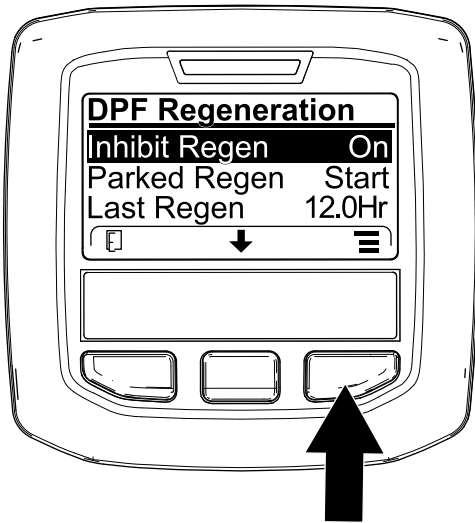
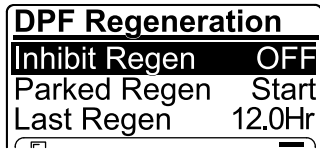

Figure 46
Figure 47
1. Access the DPF Regeneration menu, press the center button to scroll down to the INHIBIT REGEN option, and press the right button to select the Inhibit Regen entry (Figure 46).
- Press the right button to change the inhibit regeneration setting from On to Off (Figure 46) or from Off to On (Figure 47).